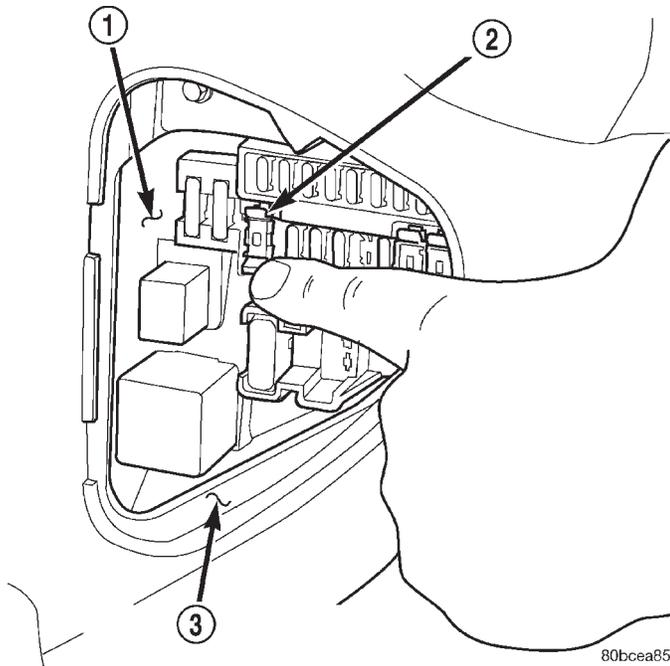

Fig. 10 Ignition-Off Draw Fuse - Typical
The Ignition-Off Draw (IOD) fuse is disconnected from Junction Block (JB) fuse cavity 12 (Fig. 10) when the vehicle is shipped from the assembly plant. Dealer personnel must reconnect the IOD fuse when the vehicle is being prepared for delivery in order to restore full electrical system operation.